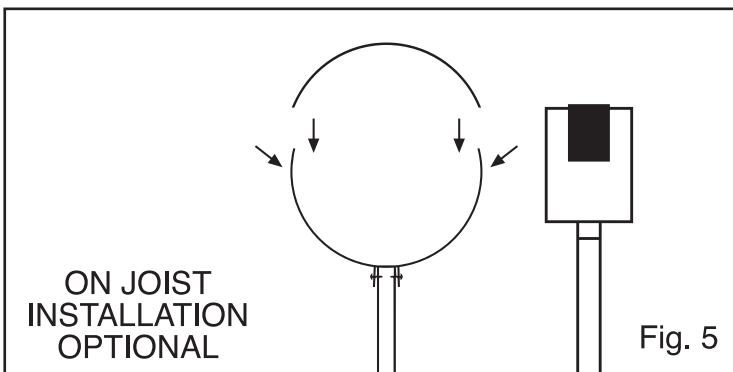

Fig. 5
STEP 7 (OPTIONAL) - SECURE FLEXIBLE DUCT USING HVAC FOIL TAPE (Fig. 5)
STEP 7 - FOLD OVER EXCESS NYLON STRAPPING FOR ADDITIONAL STRENGTH. SCREW TO RAFTER THROUGH FOLDED PORTION OF NYLON STRAPPING USING 3/4" OR 1" SCREWS (Fig. 5)